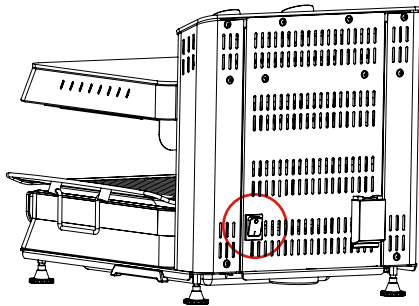
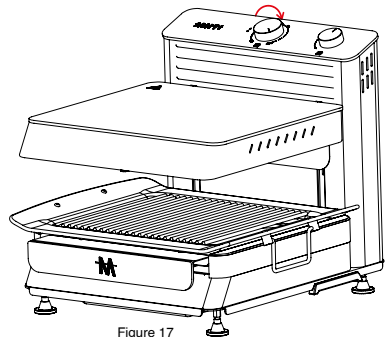

Figure 16
Figure 17
- If the product does not work when you plug it in, make sure that the on/off switch is in position (I).
- If the on/off switch is in position (I) (Figure 16), increase the power control button (Figure 17). If the product still does not work, make sure that the movable tray bed is seated in the product.